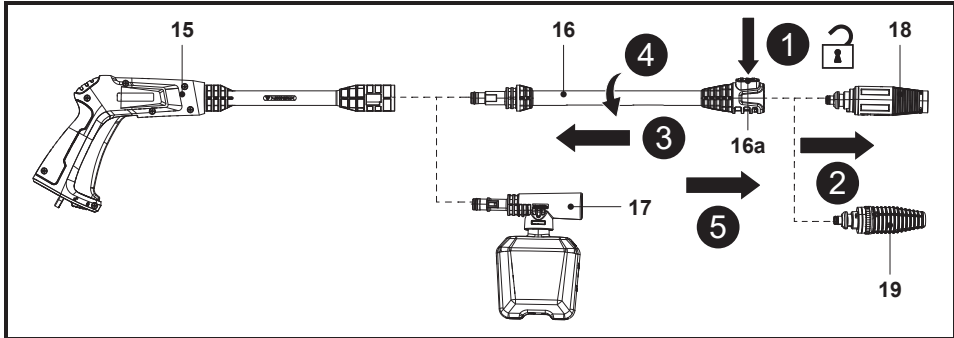

Fig. 3
**NOTE:** When two components are connected correctly, they cannot be separated by directly pulling them out. All spray gun accessories must be inserted into the spray gun (15) for proper use.
4. To disconnect the nozzle, press the lock button (16a) and keep it in place, then pull the assembled nozzle out (Fig. 3, steps 1, 2). Reinstall a required nozzle.
5. To disconnect the extension lance (16) or detergent bottle nozzle (17), push and turn the extension lance (16) counterclockwise to remove it (Fig. 3, steps 3, 4, 5). Reinstall a required spray gun accessory.